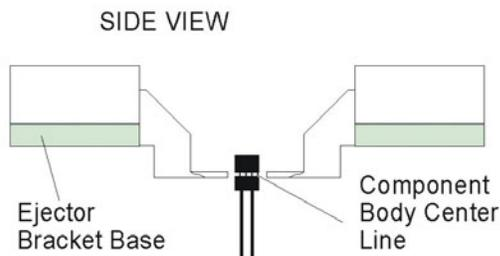

Figure 15 Adjust Ejector Bracket Base
- Adjust each ejector bracket base (Item 1) to obtain an air gap of approximately 1/32" (0.794 mm) as illustrated in Figure 15.